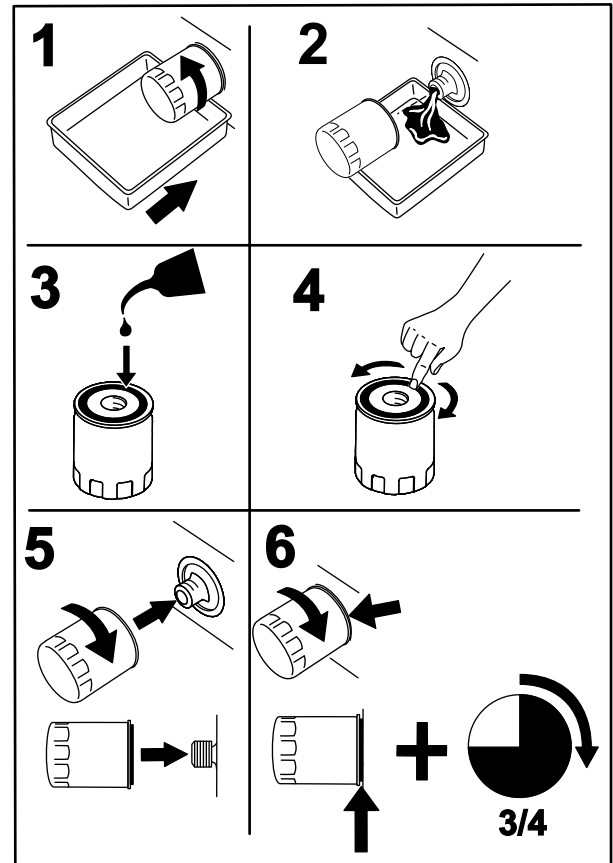

Figure 47
2. Change the engine oil filter (Figure 47).